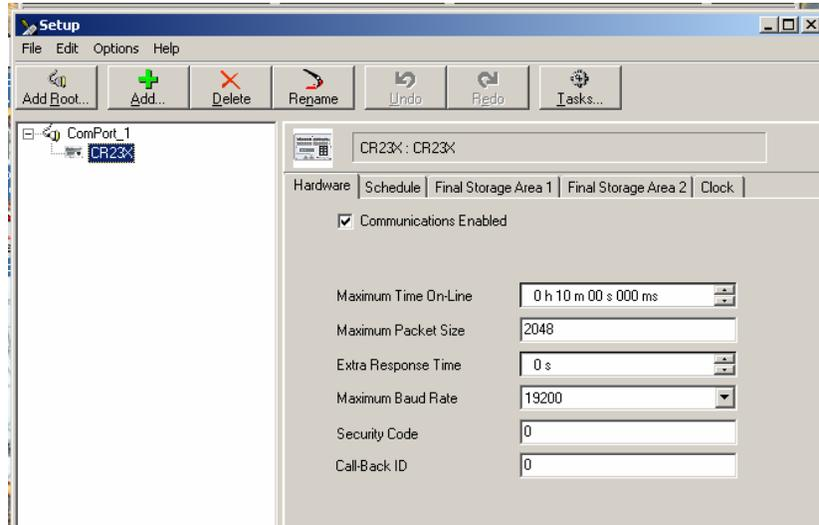

Figure 4
- a) Under the **Hardware** tab, uncheck the **Communications Enabled** box (see Figure 4).